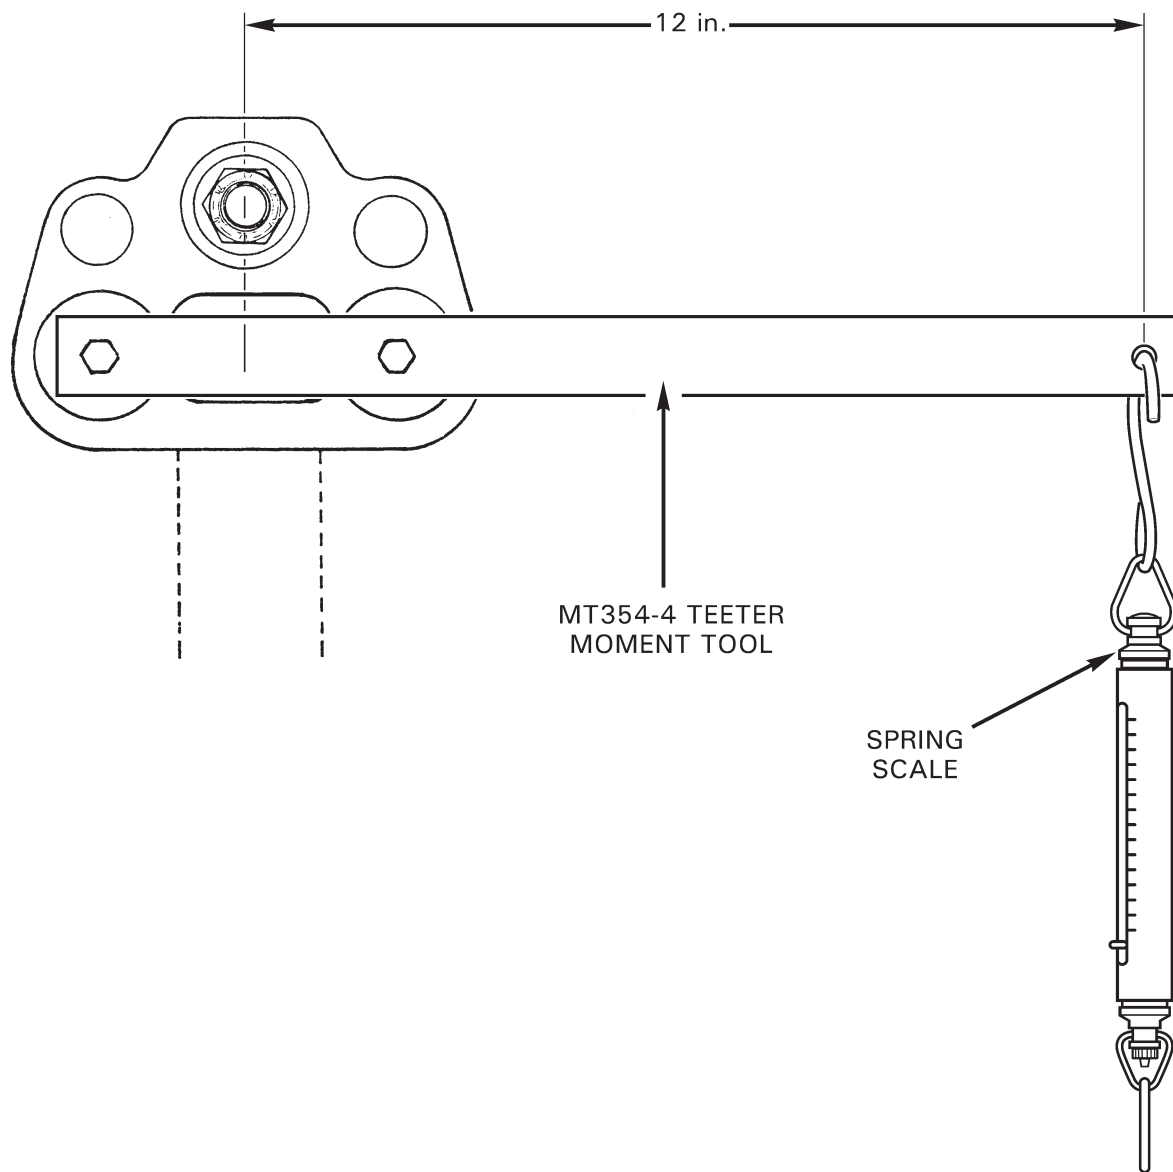

FIGURE 62-7 MEASURING TEETER HINGE FRICTION
1. Refer to Figure 62-7. Install MT354 teeter moment tool into main rotor hub coning hinge bearings. Using a spring scale, measure force required to teeter main rotor hub; use sliding force reading, not breakaway reading. Force required to teeter main rotor hub must be: